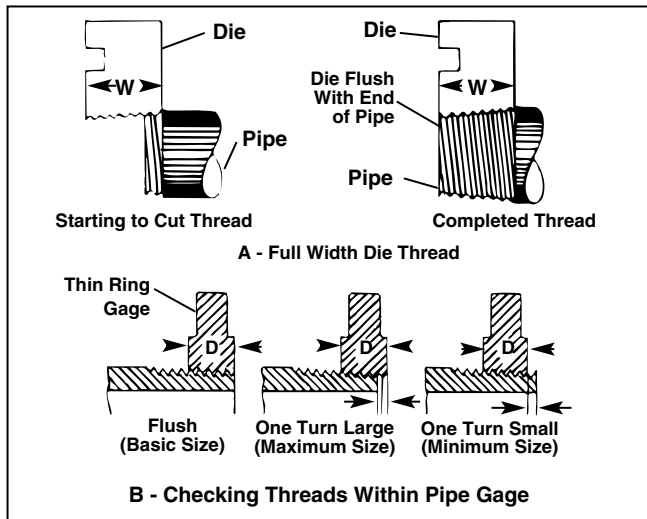

Figure 11 – Checking Thread Length
1. Thread is cut to proper length when end of pipe is flush with edge of dies (Figure 11).
2. Die Head is adjustable to obtain proper thread diameter. If possible, threads should be checked with a thread ring gage (Figure 11). A proper thread is cut when end of pipe is plus or minus one turn of being flush with face of ring gage.